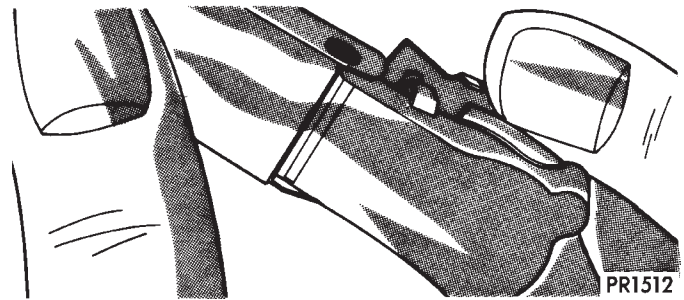

Fig. 5 Removing Wiper Arm
(1) Lift the arm to permit the latch (Fig. 5) to be pulled out to the holding position then release the arm. The arm will remain off the glass in this position.
(2) Remove the arm from the pivot by using a rocking motion.
- (1) Remove windshield wiper arms (Fig. 5).
- (2) Open hood assembly.
- (3) Remove cowl top plenum grille.